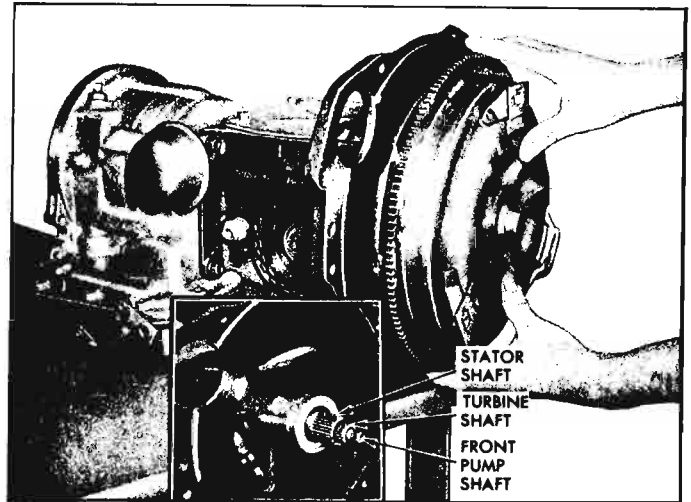

Fig. 6-18—Installing Converter on Transaxle
6. Install the converter, being sure to get full engagement of the splines on the stator shaft, turbine shaft, and front pump shaft with the applicable converter splines (fig. 6-18).